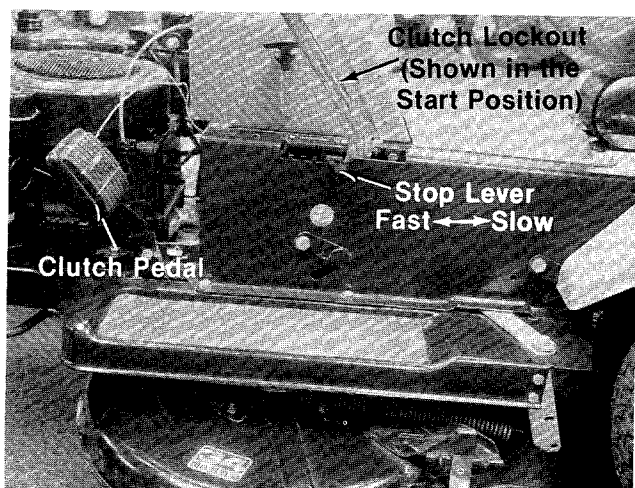

FIGURE 16.
e. **Clutch Pedal.** The clutch pedal is used to disengage the drive mechanism. Depressing the clutch pedal at any time will reduce mower speed. If depressed all the way, it will stop the mower. See figure 16.
f. **Clutch Lockout.** When the clutch pedal is depressed all the way it can be locked by placing the clutch lockout in the "START" position as shown in figure 16. The clutch lockout must be in this position before the engine will start.
g. **Stop Lever.** The stop lever allows you to regulate the maximum ground speed of the riding mower by setting the stop lever in any one of the five settings. The farther forward the stop lever is set, the faster the ground speed. See figure 16.
3. Place the clutch lockout in the "START" position. See figure 16.
5. Set the stop lever in the slowest position (first notch). See figure 16.
2. Place the clutch lockout in the "START" position. See figure 16.